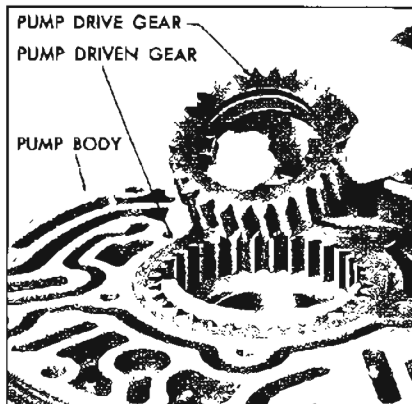

Figure 5-585
13. With pencil lead mark drive and driven gears for reassembly and remove drive. See Figure 5-585.